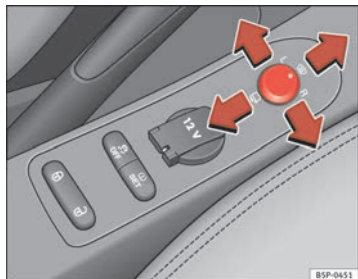

Fig. 90 Controls of exterior mirrors
1. Turn knob ⇒ fig. 90 to position **L (left exterior mirror)**.
- Turn the knob forwards to the central position ⇒ fig. 90 so that the heated rear view mirrors warm up and the heated windscreen* in the wiper blade rest area is activated ⇒ page 125.
- Turn the control ⇒ fig. 90 to position to fold in the exterior mirrors. You should always fold in the exterior mirrors if you are driving through an automatic car wash. This will help prevent damage.